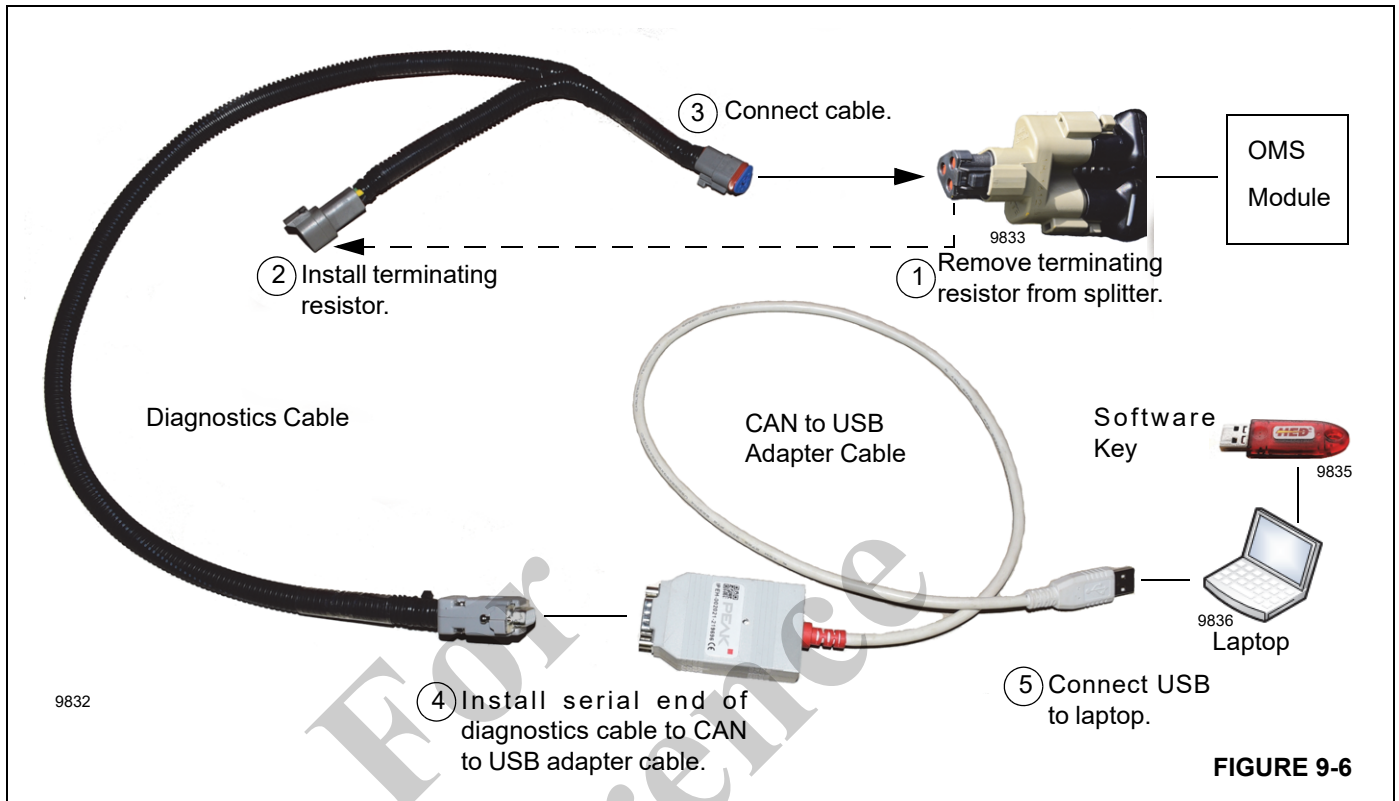

FIGURE 9-6
2. Remove the terminating resistor from the Deutsch splitter (Figure 9-6).